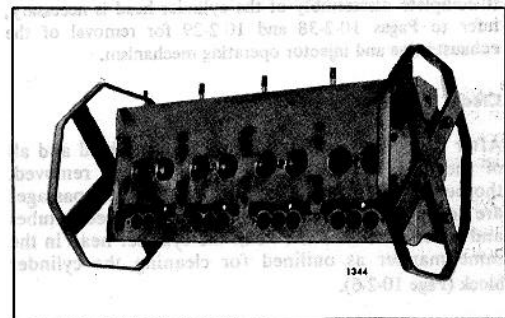

Fig. 6. Cylinder Head Mounted on Holding Plates (J 3087-01)
15. Place the cylinder head on its side and remove the engine lifter brackets and gaskets. Then attach the cylinder head holding plates J 3087-01 to raise the head above the work bench (Fig. 6).